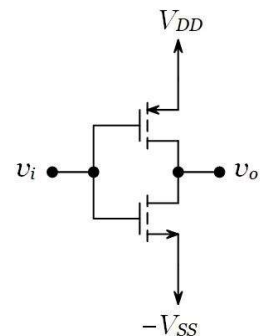

Figure 3.6. CMOS inverter.
35. Build the circuit in Figure 3.6. Your NMOSFET should be the Q1(N) and your PMOSFET should be the Q1(P). Review Tasks 1 & 3 and the CD4007 datasheet to make sure that you are connecting the correct pins.